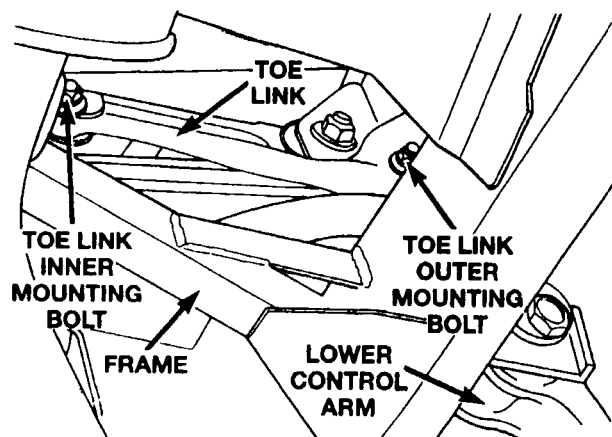

Figure 33 – Right Side Shown
3. Remove the right and left side toe link inner and outer attaching bolts and nuts (Figure 33).